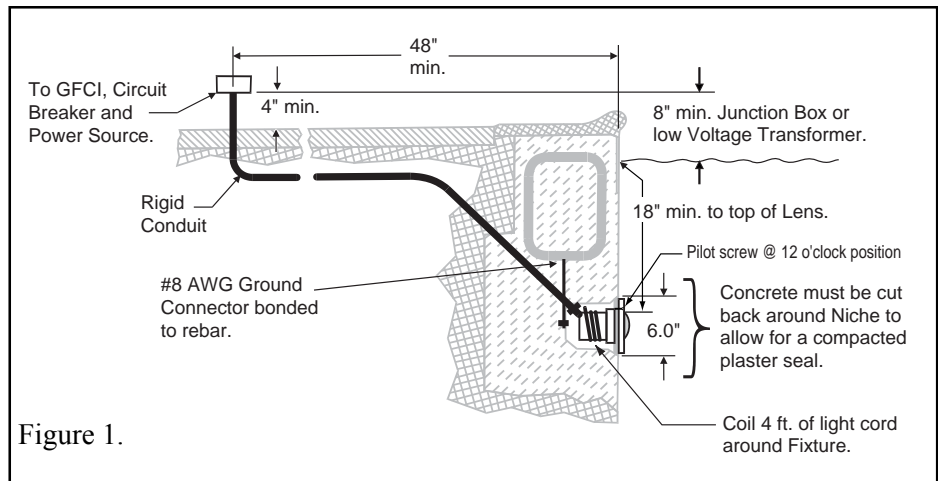

Figure 1.
A. The electrician must complete preparatory steps before light fixture is installed; see Figure 1.
- b. The Junction Box (or, for 12 volt models, the low voltage transformer) must be located at least eight (8) inches above water level, at least four (4) inches above ground level, and at least 48 inches from the edge of the pool or spa; see Figure 1.
- c. The light fixture and all metal items within five (5) feet of the pool or spa must be properly electrically bonded.
- d. The wet niche must be properly installed so the pilot screw hole is at the 12 o'clock position and that the top edge of the underwater light's lens is at least 18 inches below the surface of the water in the pool; see Figure 1. (*Not more than 48 inch depth in Canada.*)
- e. The wet niche must be properly electrically bonded and grounded via the No. 8 AWG ground connector located at the rear of the niche; see Figure 1.
1. Feed cord through conduit to Junction box, leaving at least four (4) feet of cord at the light fixture to coil around the light; see Figure 1. This four (4) feet of cord around the light allows the light to be serviced after the pool or spa is filled with water.
2. Cut the cord at the Junction Box, leaving at least six (6) inches of cord to make connections.
3. Strip six (6) inches of the outer cord jacket to expose the three insulated wires. Be careful not to damage the insulation on the three (3) inner wires.
4. Install strain relief over cord jacket and connect all three (3) wires to the corresponding circuit wires in the Junction Box. Install the Junction Box cover.
- b. The Junction Box (or, for 12 volt models, the low voltage transformer) must be located at least 8 inches above ground or water level, at least four (4) inches above ground level, and at least 48 inches from the edge of the pool or spa; see Figure 1.
- d. The wet niche must be properly installed so that the top edge of the underwater light's lens is at least 18 inches below the surface of the water in the pool or spa; see Figure 1.
5. Leave at least 4 feet of cord to coil around the light fixture; see Figure 1. This allows the light to be serviced after the pool or spa is filled with water.